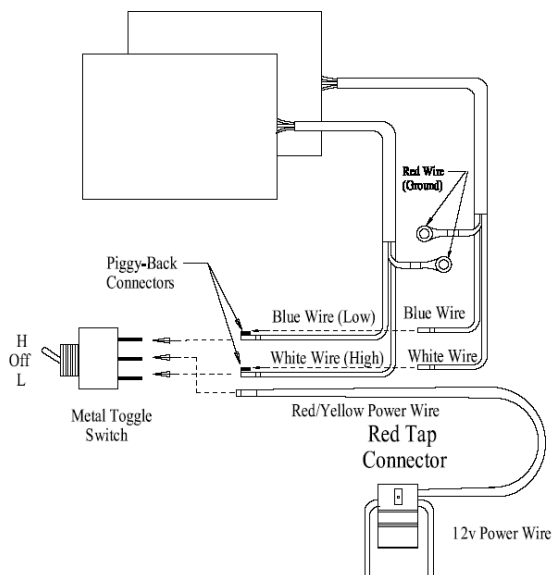

Fig. 2 Connector guide & switch connections
10. Attach female slip-on connectors, piggyback connectors and ring terminals as shown in Figure 2. NOTE: A crimping tool works best, or pliers will work using a double crimp approach (top crimp first and then a side crimp)
11. Connect hand warmers to switch according to Fig. 2
14. Locate a power wire leading to a headlight, taillight, or dash light. Place this power wire into the continuous channel of the red tap connector and insert the yellow/red wire (do not strip insulation) completely to stop. Using pliers, make the connection by squeezing the metal contact flush with top of connector. Close the hinged cover until latched. See Fig. 2 for connection to switch. **Note:** For protection against electrical shorts, a fuse (not included) could be installed between the tap connector and the switch. Fuse would be a 5-amp capable of handling at least 60 watts.